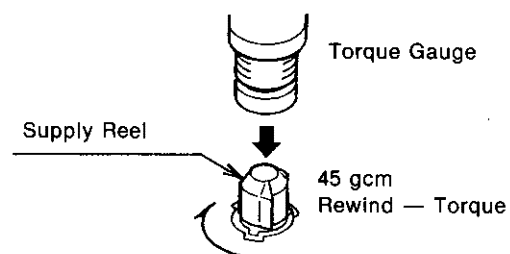

Figure 5
3. Measure the rewinding torque value. Torque of more than 45 gcm is necessary for rewinding operation (Figure 5).